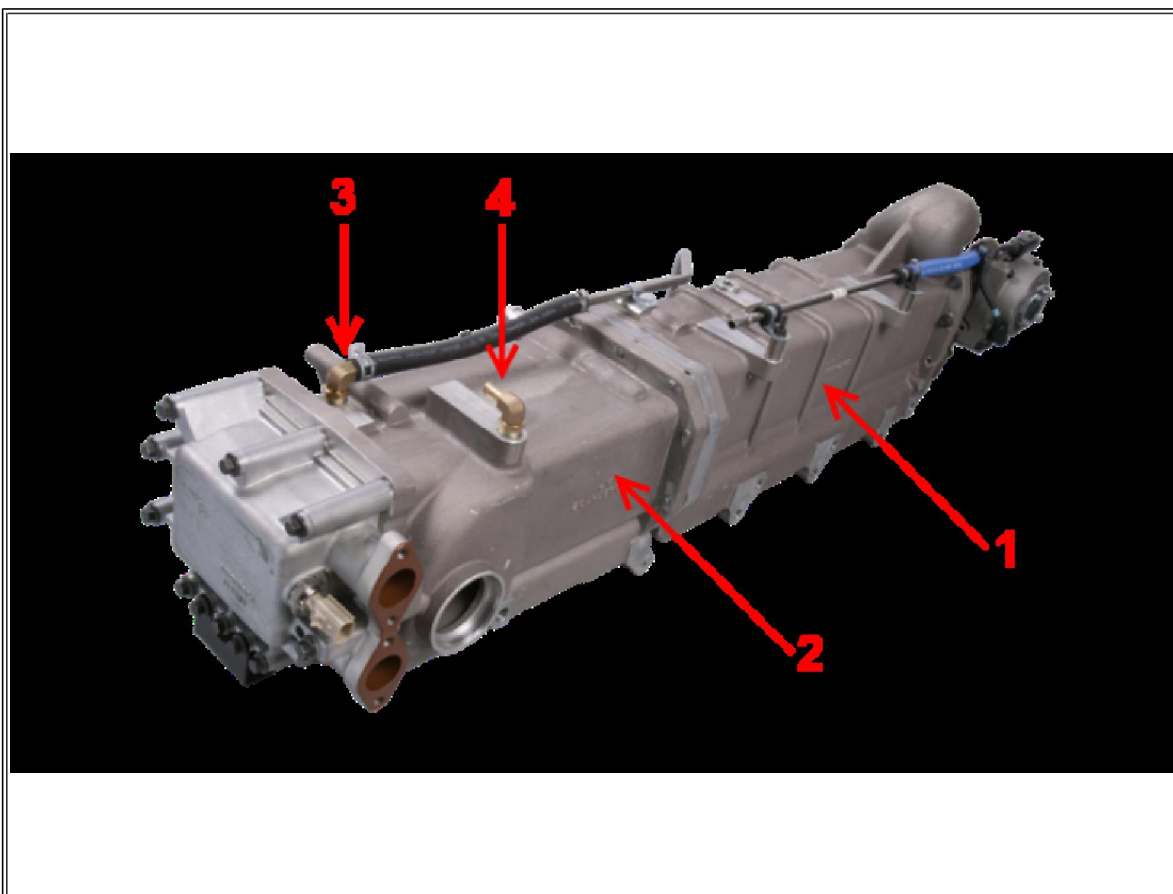

Figure 1: 2010 MaxxFace 11/13 EGR Cooler Assembly
- An **internal** coolant leak in the Low Temp EGR cooler (reference **Figure 1** below for the cooler assembly notation), or